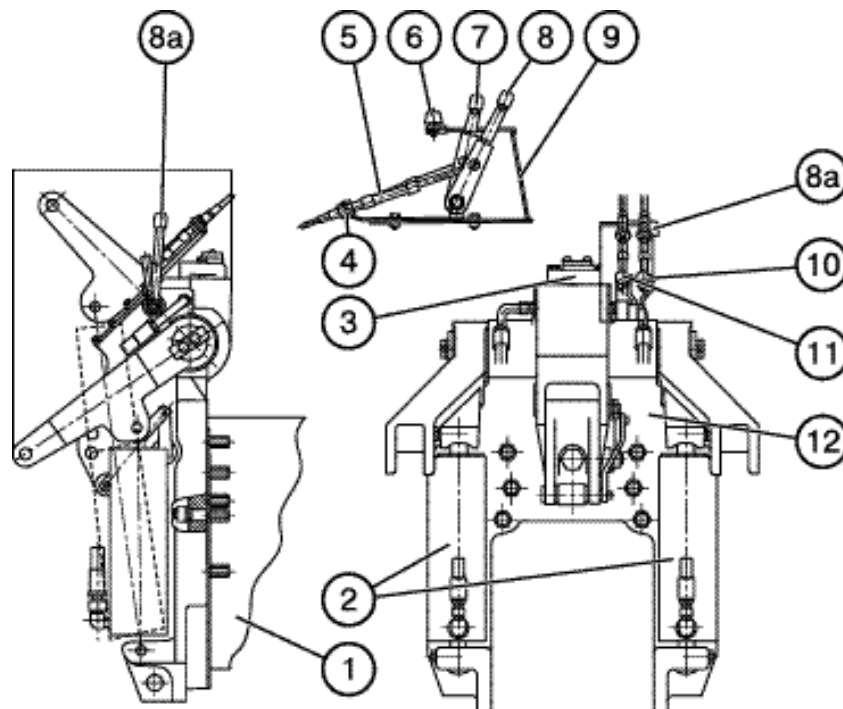
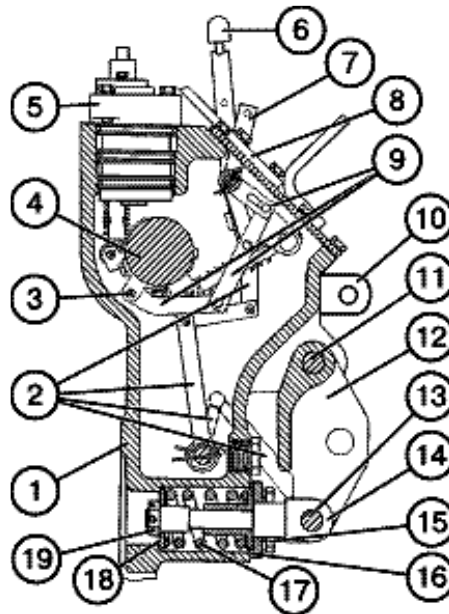

Fig.E-29. Hydraulic power lift of the HLL (monoblock):
Fig.. E-30. Hydraulic power lift construction:
The **operating controls** of the hydraulic system (7), (8) (Fig. E-29) are located in the tractor cab, with the exception of the pump engagement handle (the design is
left unchanged) and additional position control handle (8a) (Fig. E-29) located on the rear of the tractor on the hydraulic power lift.
The **draft control handle** (7) (Fig. E-29) is located on the right-hand control panel (9), the first from the operator's seat. The operational range of the handle positions is marked with digits from 1 to 9 that corresponds to the entire span of ploughing depths from minimal to maximal ones, respectively.
The **position control handle** (8) (Fig. E-29) is located next to the draft control handle (7). Its operating range is marked with the same digits which cover RHL positions from the upper transport position down to the lowermost position, respectively.
The **additional position control handle** (8a) (Fig. E-29) is located on the rear of the tractor on the hydraulic power lift. Pulling this handle towards the operator standing behind the tractor and looking along the tractor forward travel lifts the RHL and pushing the same from the operator lowers the RHL.
### Hydraulic Power Lift (Fig. E-29, E-30)
The hydraulic power lift (Fig. E-29) is installed on studs, on the rear wall of the rear axle casing (1) and consists of a control unit and a regulator-distributor (3) built
The control unit is mounted in the monoblock (1) (Fig. E-30) and consists of a position sensor in the form of a bracket attached to shaft (4) of the RHL lift levers (10); draft sensor involving the coupling link (12) mounted on axle (11) in the monoblock (1) and coupled with rod (14) on pin (13). The spring (17) pre-loaded by the nut (19) is fitted on the rod (14). Through a leverage system (9) the position sensor (3) is connected to position handle (6). The pin (13) of the rod (14) is coupled with draft handle (7) through leverage (2).
**When the position control is used**, the draft handle (7) (Fig. E-30) should be shifted to its foremost position, in the direction of the tractor forward travel. Further control of the hitch linkage is achieved by means of the position lever (6) (Fig. E-30) and handle (7) via ropes (5) (Fig. E-29). When moving the lever (6) backward, the hitch linkage is lifted and then moving the lever (6) forward, the hitch linkage is lowered. This adjusting process is performed by means of the regulator-distributor built in the monoblock (1) and controlled by means of the position sensor (3).
**When the draft control is used**, the position handle (6) should be shifted to its foremost position, in the direction of the tractor forward travel, corresponding to the bottom position of hitch drop links. The draft control handle (7) is set to the required ploughing depth; further the process of adjustment is fulfilled by the built-in regulator-distributor (5) under control of the draft sensor.
Using the position control handle (8) (Fig. E-29) for limiting the ploughing depth when operating in the draft control mode makes it possible to achieve the **combination adjustment**.
The hydraulic power lift drive (Fig. E-29) consists of a bracket (4) with the draft (7) and position (8) handles mounted on it. The latter are connected to the draft (11) and position (10) levers, respectively, by means of two-way ropes (5). The control levers are locked by spring-loaded friction disks.